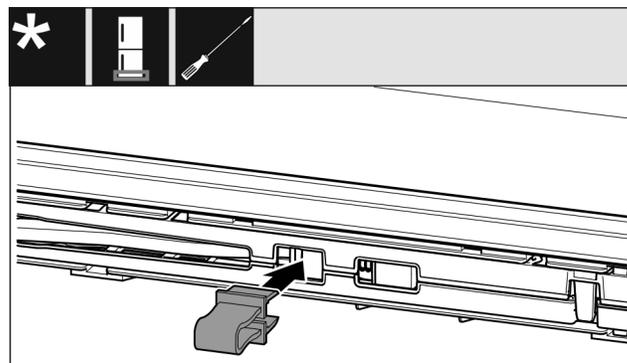

Fig. 12
▶ Engage the locking device in the opening Fig. 12 ().